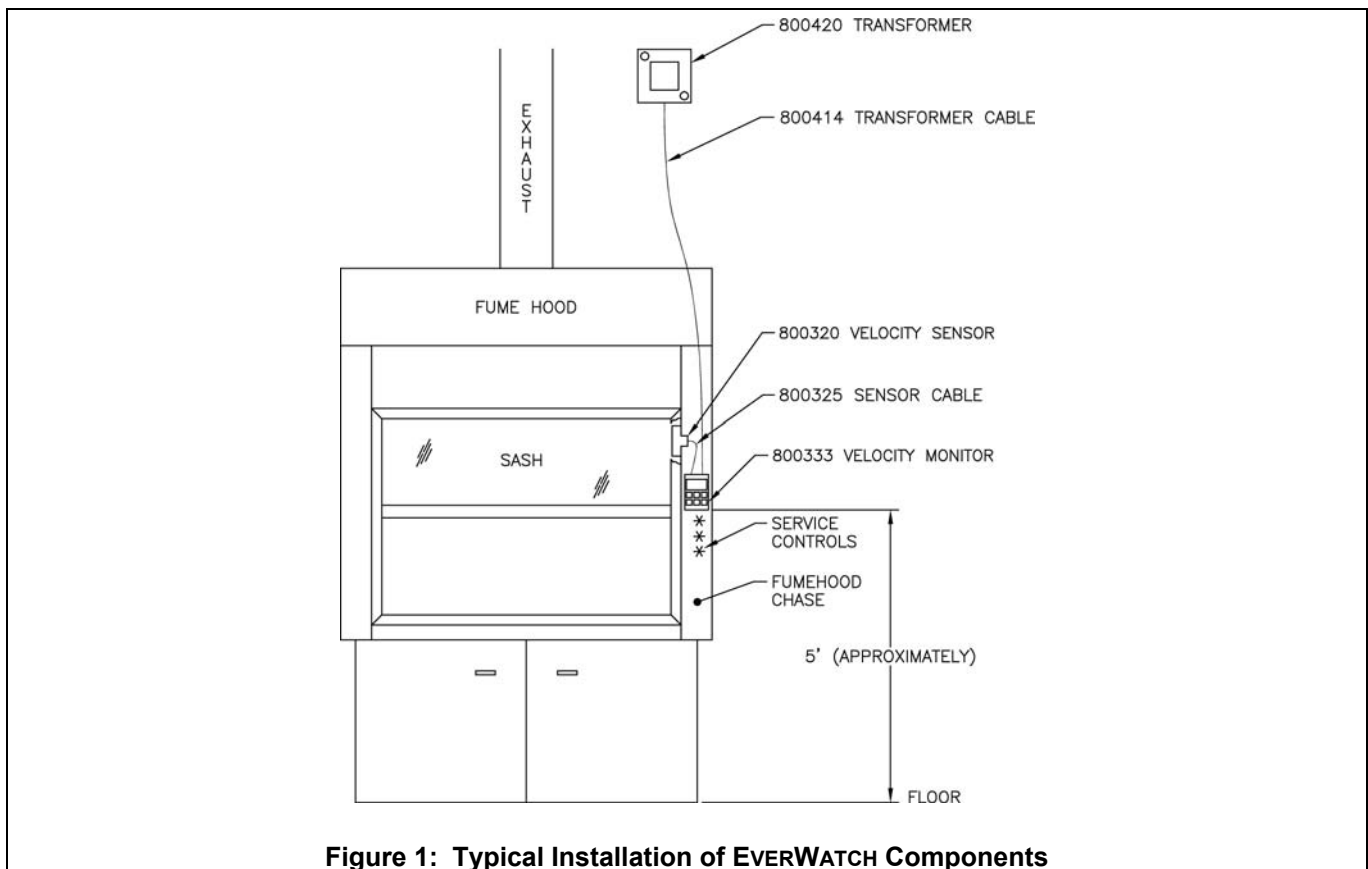

Figure 1: Typical Installation of EVERWATCH Components
The purpose of these instructions is to guide the installer through the installation of the TSI EVERWATCH Model 8610 Face Velocity Monitor. Please read these instructions thoroughly before beginning installation. The instructions begin with Figure 1 which shows a typical EVERWATCH installation, followed by a component list, and then some very important installation notes.
WARNING: The velocity sensor and velocity monitor mount on the same side of the fume hood (Figure 1).
- Select the mounting location of the VELOCITY MONITOR. The monitor is typically mounted above the service controls (see Figure 1).